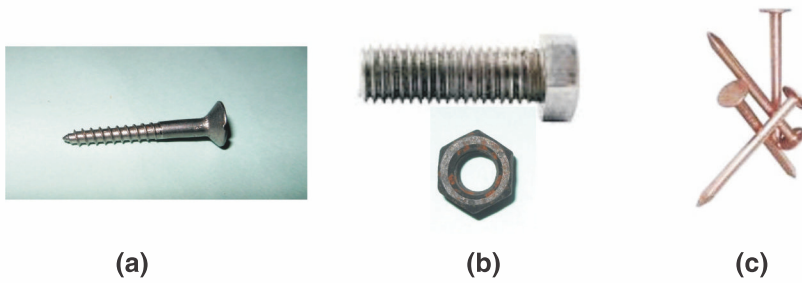

Fig.1.1: a) Screw; b) bolt (top) – nut (bottom); c) nails.
2. Now search through the box of mixed objects and sort out screws, nut-bolts and nails with the help of Fig.1.1.